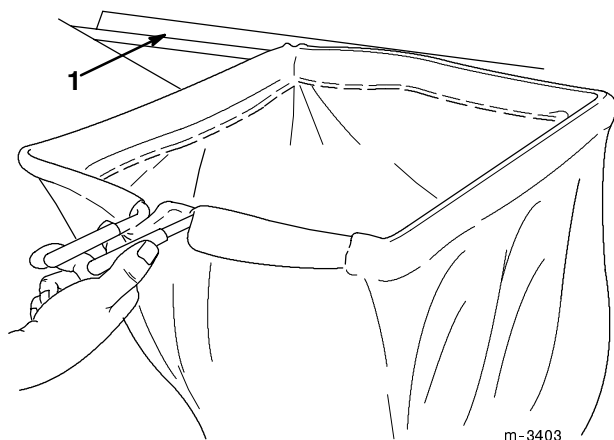

Figure 7
1. Slide the grass bag under the grass catcher cover and position the front edge of the bag rod into the screen support bracket on the bag frame (Fig. 7).
5. Slide the grass bag under the grass catcher cover and position the front edge of the bag rod into the screen support bracket on the bag frame (Fig. 7).